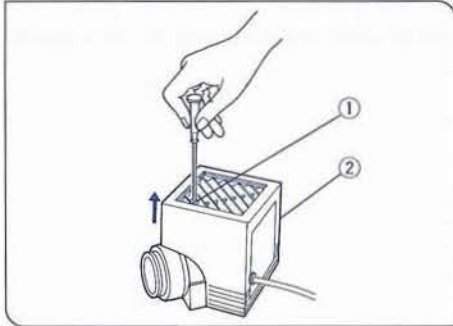
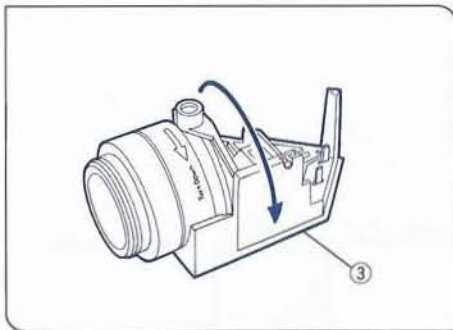

Fig. 1
Fig. 2
(Figs. 1,2,3)
1. Fully loosen the lamp housing clamping screw ① on top of the lamp housing cover with the provided Allen (hex) driver. (Fig. 1)
2. Lift the lamp housing cover ② upward and remove it.
3. Turn the lamp socket ③ 90° in the direction indicated by the arrow. (Fig. 2)
4. Holding the bulb with gloves or a piece of gauze, depress the bulb clamping levers ④ and insert the bulb pins ⑥ into the pin holes ⑦ and release the clamping levers. (Figs. 2,3)
Tighten the clamping screw while pressing downward on the cover. (Fig. 1)